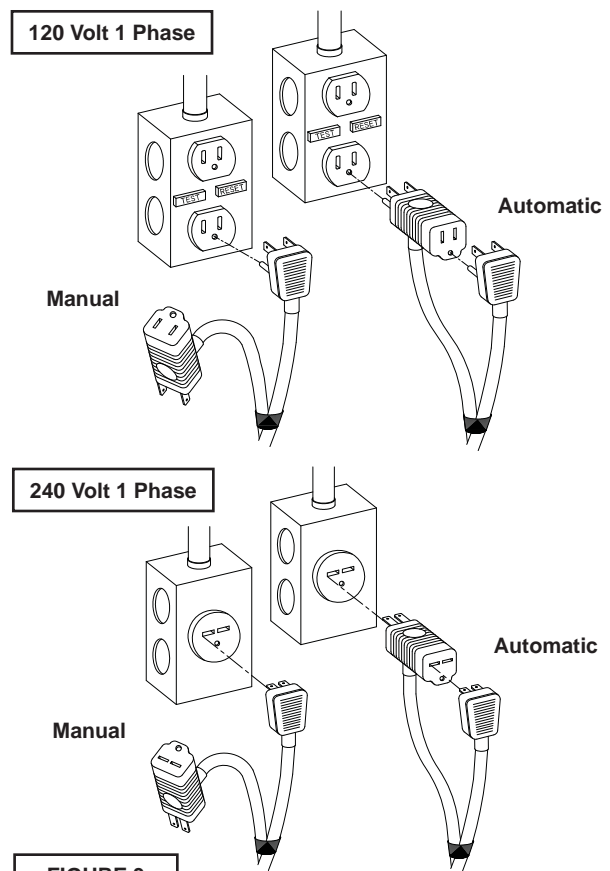

FIGURE 3
- 6.) Figure 3 shows a typical connection for pumps with the wide angle float and piggy-back plug. For manual and automatic operations.
Pumps that have had the oil drained from the Motor Housing - Apply pipe sealant to pressure gauge assembly and tighten into pipe plug hole (See Figure 3). Pressurize motor housing to 10 P.S.I. Use soap solution around the sealed areas and inspect joints for "air bubbles". If, after five minutes, the pressure is still holding constant, and no "bubbles" are observed, slowly bleed the pressure and remove the gauge assembly. Replace oil as described in section F-1.4. If the pressure does not hold, then the leak must be located and repaired.
Pumps that have NOT had the oil drained from the Motor Housing - The pressure test may be done with the oil at its normal level. Remove pipe plug (39) from motor housing (6). Apply pipe sealant to pressure gauge assembly and tighten into hole (See Figure 3). Pressurize motor housing to 10 P.S.I. Use soap solution around the sealed areas above the oil level and inspect joints for "air bubbles".